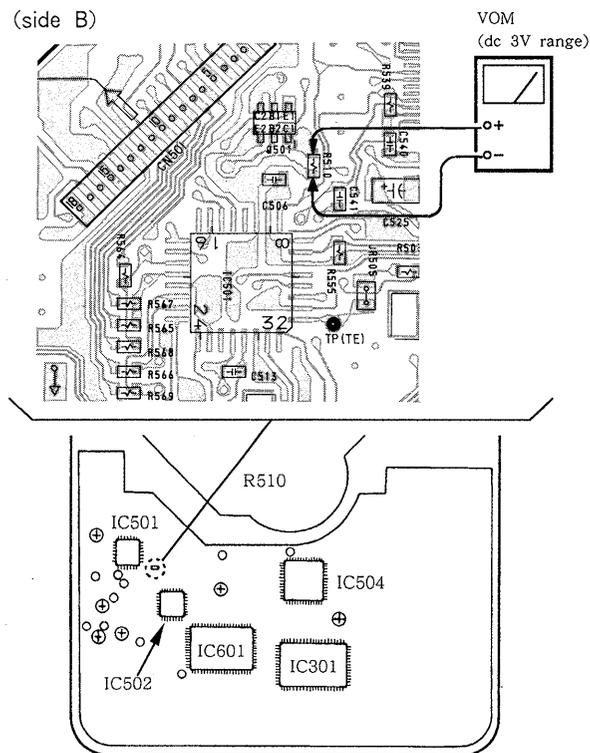

Fig. 2 VOM Connection
3. Connect a VOM as shown in Fig. 2.(both side of R510 : 10 Ω)